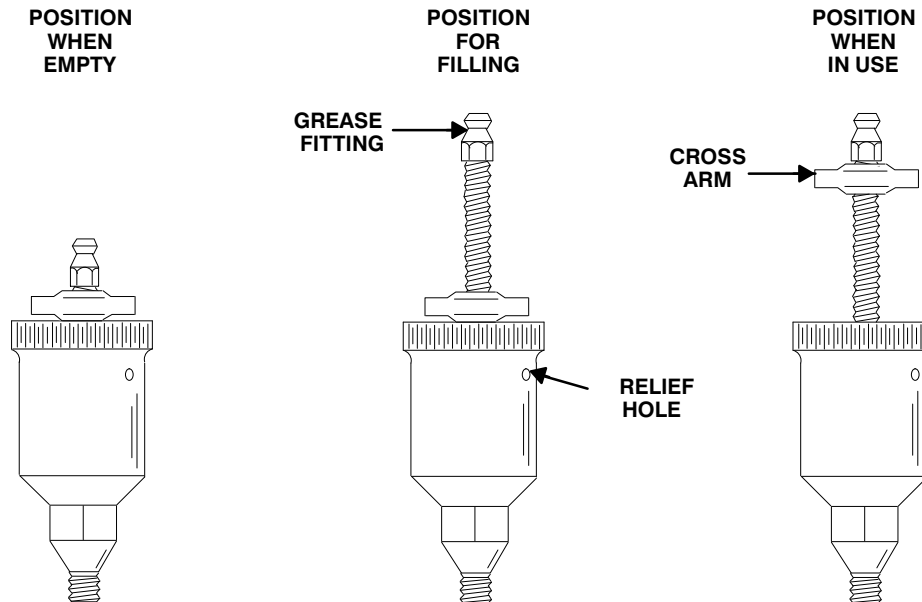

Figure 6. Automatic Lubricating Grease Cup
Fill the grease cup (14) through the grease fitting with No. 2 lithium base grease until grease escapes from the relief hole. Turn the grease cup arm counterclockwise until it is at the top of the stem; this will release the spring to apply grease to the seal (see Figure 6).